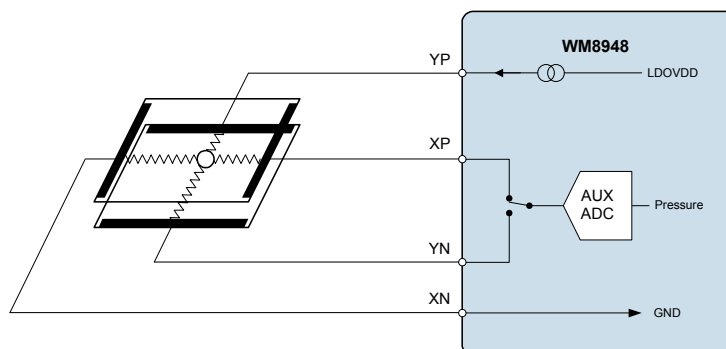

Figure 38 Z-axis (Pressure) Touch Panel Measurement
The configuration is illustrated in Figure 38. In this example, a constant current flows from the Top (YP) connection to the Left (XN) connection. The Right (XP) and Bottom (YN) points are measured in turn, and the difference, $V_X - V_Y$ is equal to $I_P \times R_C$, where I_P is the current applied and R_C is the resistance between the plates. The smaller the measured resistance, the greater the pressure being applied.